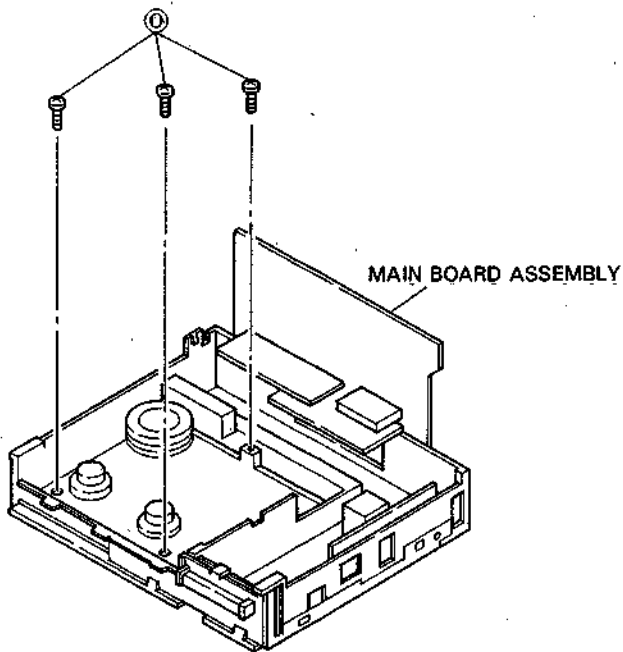

Fig. 1-1-14
2. Refer to Fig. 1-1-14, take out 3 screws ① and disengage 2 locks from the main deck assembly.